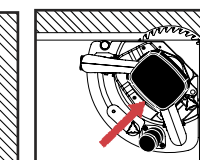

Figure 12
- When the saw housing meets both walls, push saw into the corner as shown (see figure 12).